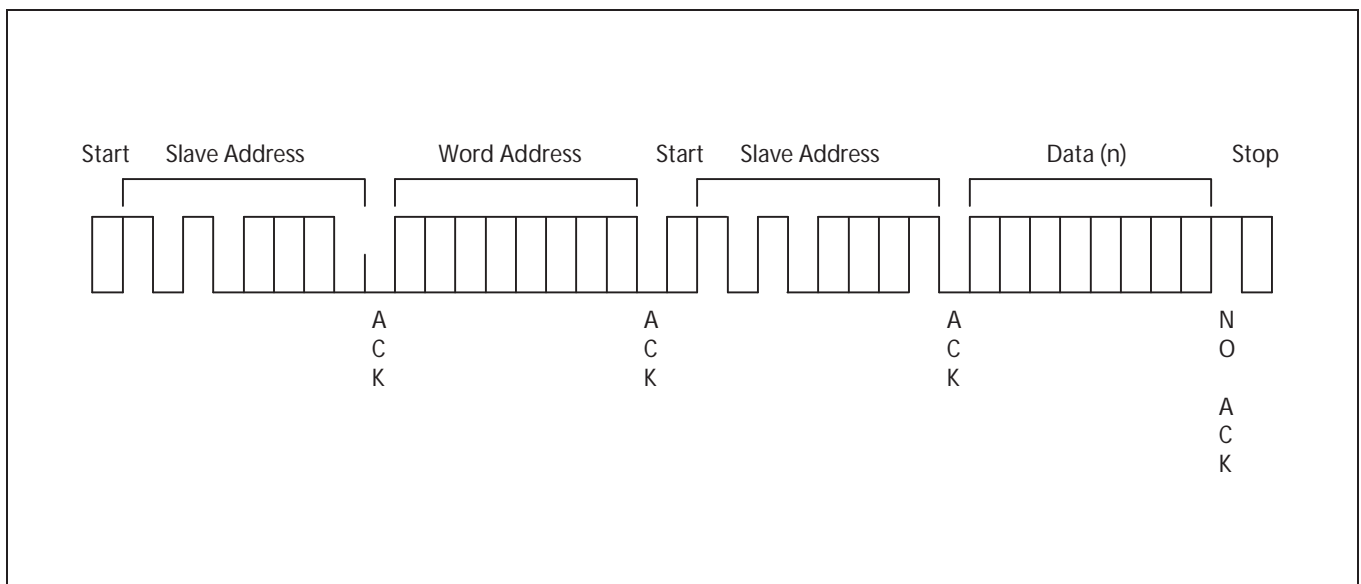

Figure 1-13. Random Address Byte Read Operation
5. In response, the 24LLC02 stops transmitting data and reverts to its stand-by mode (see Figure 1-13).